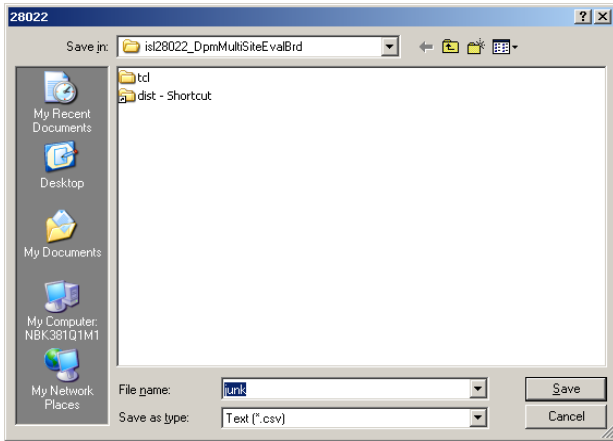

FIGURE 10. FILE NAME AND DIRECTORY SAVE DIALOG BOX
- The DPM software allows the user to store a set number of points of data. Go to the menu bar of the ISL28022 DPM Demo Software window and choose File -> Save Data. Choosing the Save Data option will open a dialog box asking for the filename and directory of the save path. Figure 10 is an illustration of the dialog box.
- The software allows the user to save and load the configuration of each of the devices. To load or save a configuration, select Load Config or Save Config under the File drop down menu. A window will appear similar to Figure 10 that will ask for directory information of the file to save or load.